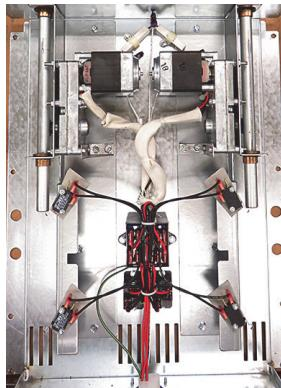

Figure 1
**Follow these instructions to install the auto reverse retrofit basket lift kit. This allows the basket lift, if it isn't in the fully down position within ten (10) seconds, to automatically reverse and raise.**
3. Remove the basket lift cover to expose the inside of the basket lift (see Figure 1).